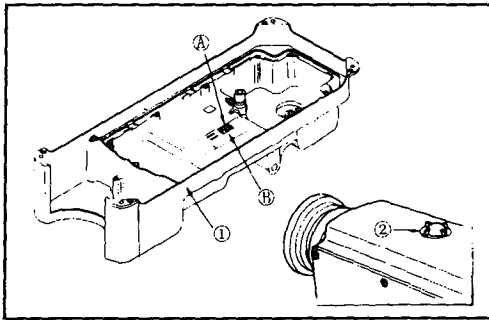
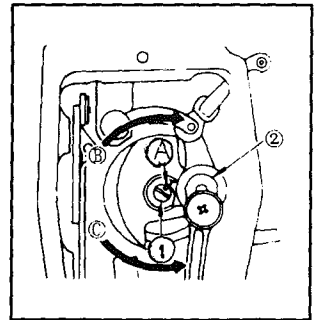

Fig.5
Fig.6
2. LUBRICATION (Fig. 5, Fig. 6)
1. Information on lubrication (Fig. 5)
2. Adjusting the amount of oil supplied to the face plate parts(Fig. 6)